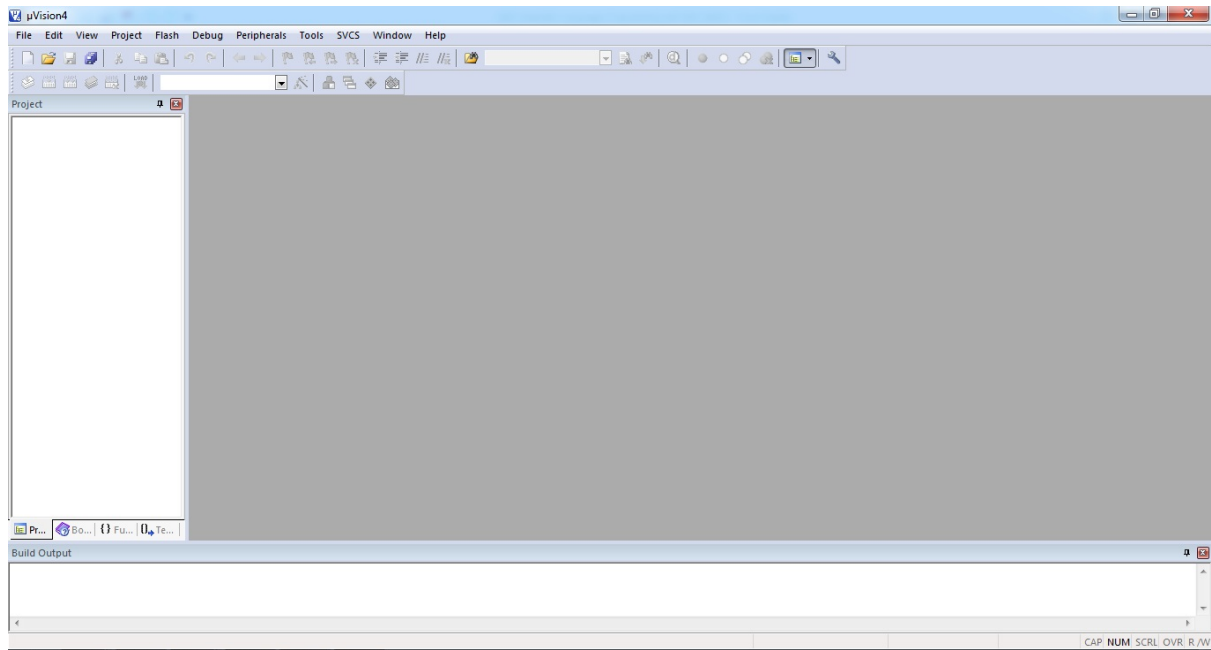

Figure 1.7: Keil interface on start
1. Run the software by clicking the icon on desktop, if available, or by clicking on **Start** → **All Programs** → **Keil μVision** . An interface similar to one shown in Figure 1.7 will open.